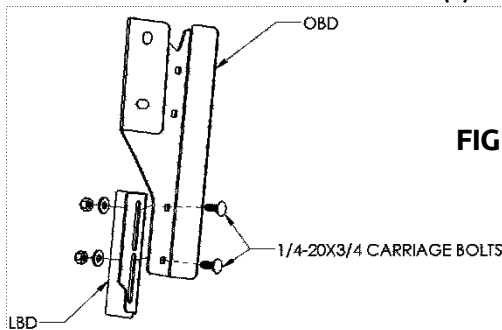

FIGURE 2 – Outer bracket, driver side shown
- Remove (2) bolts from top and (5) bolts from bottom with 8mm socket to remove skin.
- Remove (8) M8 bolts from OE visor frame to fully remove visor. Retain the (8) M8 bolts for assembly of new visor.
- Attach the Lower Brackets to the Outer Brackets with (2) carriage bolts, flat washers, and hex lock nut. (FIGURE 2).